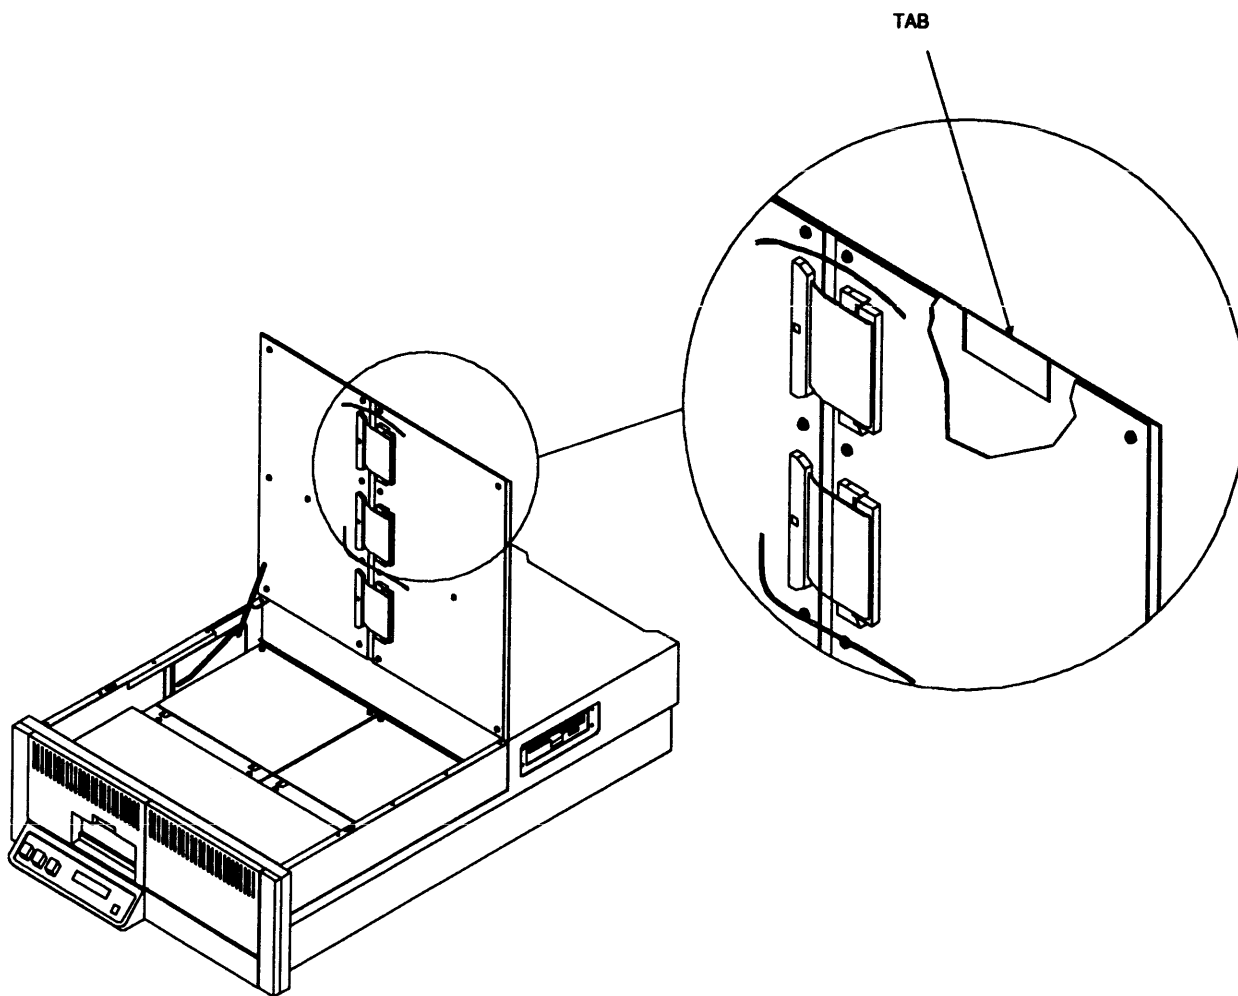

Figure 7
2. With a pair of pliers, break off the scored tab (Figure 7) on the front edge of the front cover.
To configure the interface card for the correct SCSI bus and termination, refer to Figure 7 and
4. Set DIP switch 4 located on the SZ card to desired settings, On for differential, Off for singled ended. (Refer to Figure 7.) If the switch is set incorrectly, change it.
5. On the SZ card, there are two sets of terminating connectors (refer to Figure 7). Each set has a corresponding terminating SH card. Each card is inserted into the slot (connector) marked with the type of configuration desired. If necessary, change the location of both terminating SH Cards.